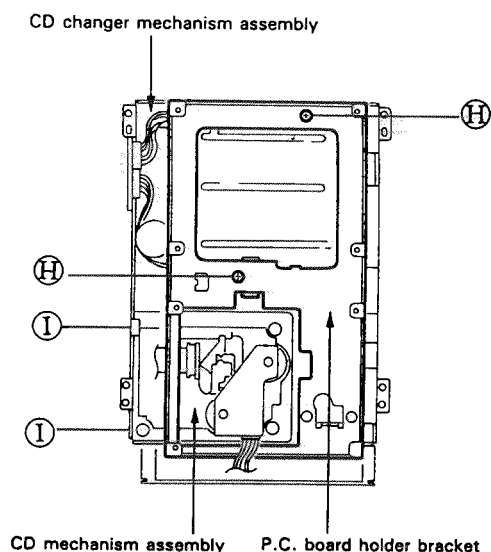

Fig. 10
2. After turning over the CD changer mechanism assembly, from the CD changer mechanism assembly, remove the 2 screws  $\textcircled{H}$  securing the P.C. board holder bracket. (Refer to Fig.10)